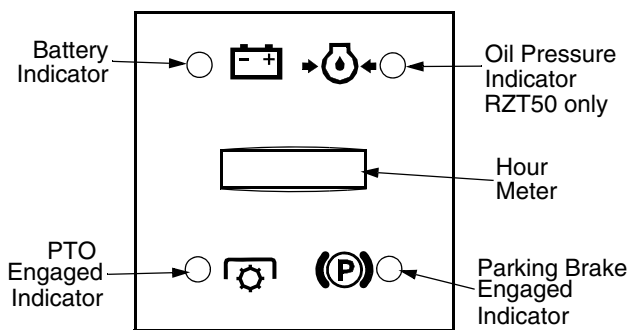

Figure 7
**Battery Indicator** (Refer to Figure 7)
**Oil Pressure Indicator** (Refer to Figure 7)
**PTO Engaged Indicator** (Refer to Figure 7)
**Parking Brake Engaged Indicator** (Refer to Figure 7)